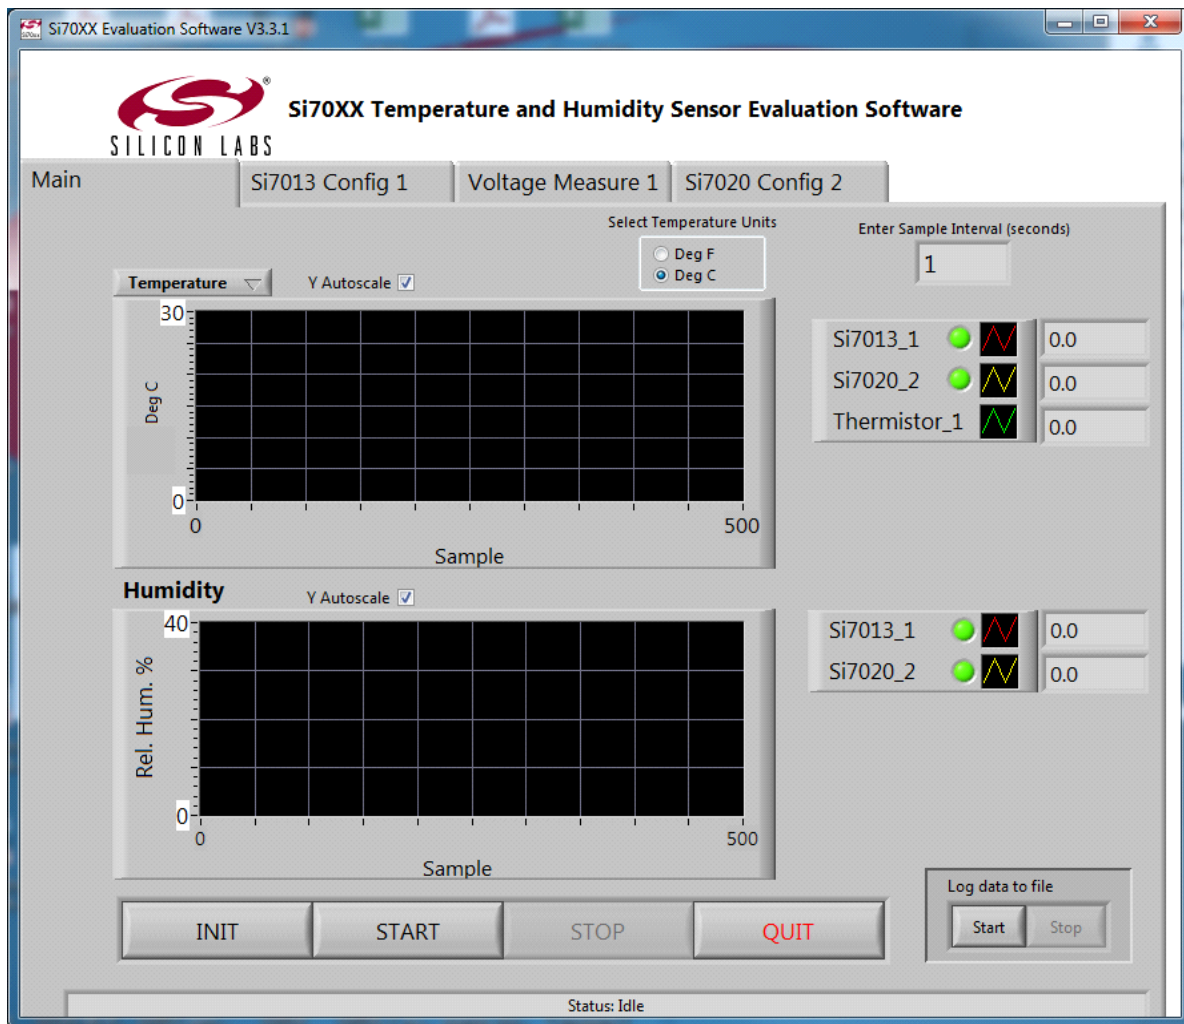
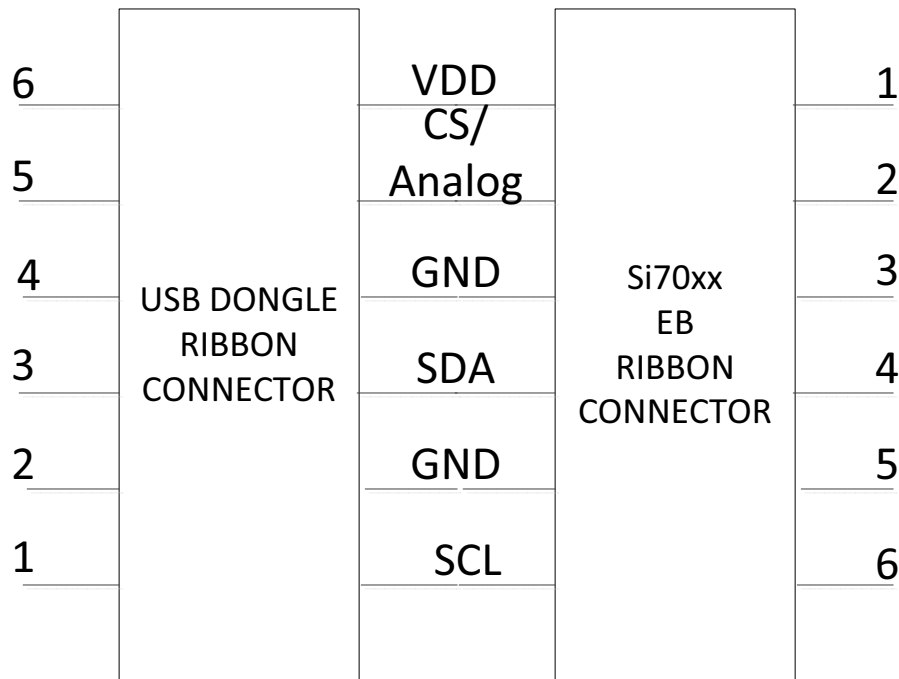

Figure 10. Voltage Measurement Screen
Figure 11. Ribbon Cable Pin Assignments
The USB dongle facilitates communication between the Si7013 and the optional postage stamp size evaluation board and a PC. This function is enabled by the Silicon Laboratories' C8051F381 microcontroller. The optional postage stamp board is connected to connector J2 by a 6 wire flat flexible cable. The pin connections for connector J2 are shown in Figure 10. A full circuit diagram of the board is shown in Figure 11.
- Updated Figure 10, "Voltage Measurement Screen," on page 10.